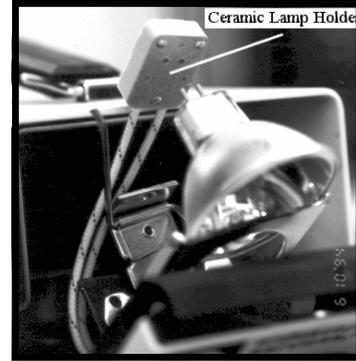

Fig. 4
4. Remove bulb from ceramic holder and replace with new bulb as seen in *Fig. 4*.